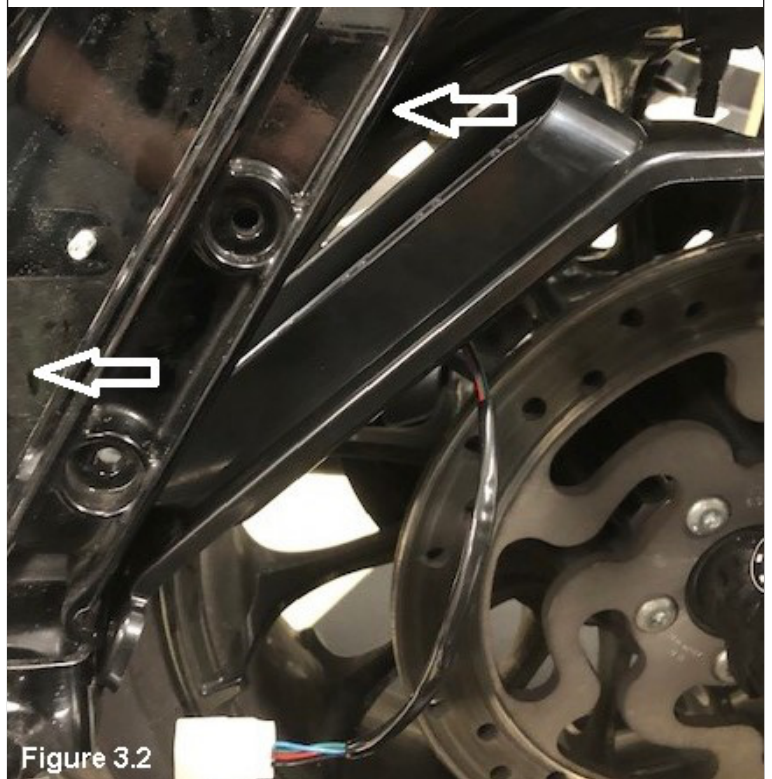

Figure 3.2
9. Clean the area where the double-sided tape will contact and install the Filler Lights by pinching the lower exterior of the light and sliding the light into place Figure 3.2. Be sure the double-sided tape is fully stuck to top of support bracket.